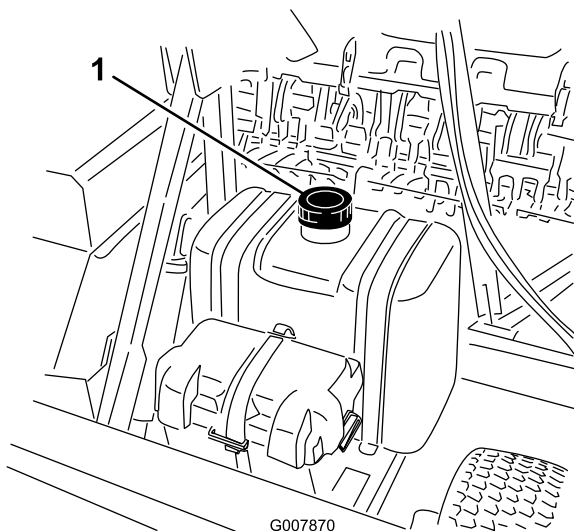

Figure 28
2. Clean around the fuel-tank cap and remove the cap (Figure 28).